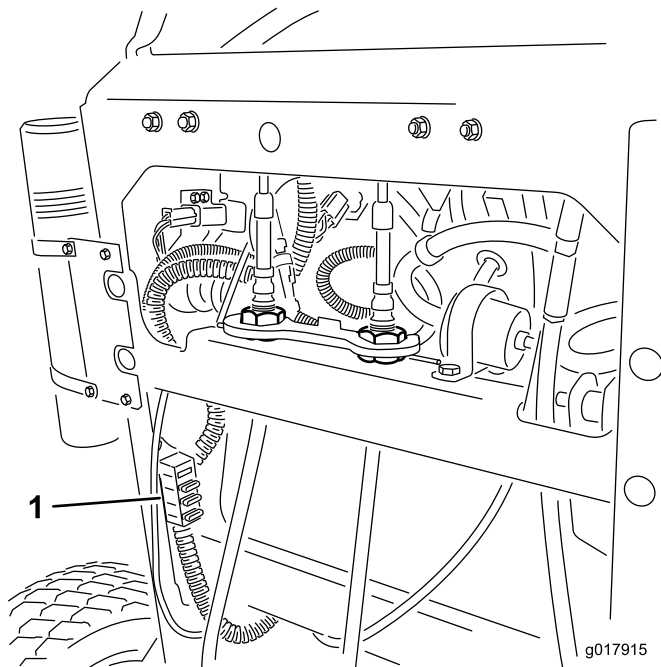

Figure 55
2. Pull out on the fuse to remove or replace it (Figure 55).
Note: Ensure the correct size fuse is installed (Figure 55).